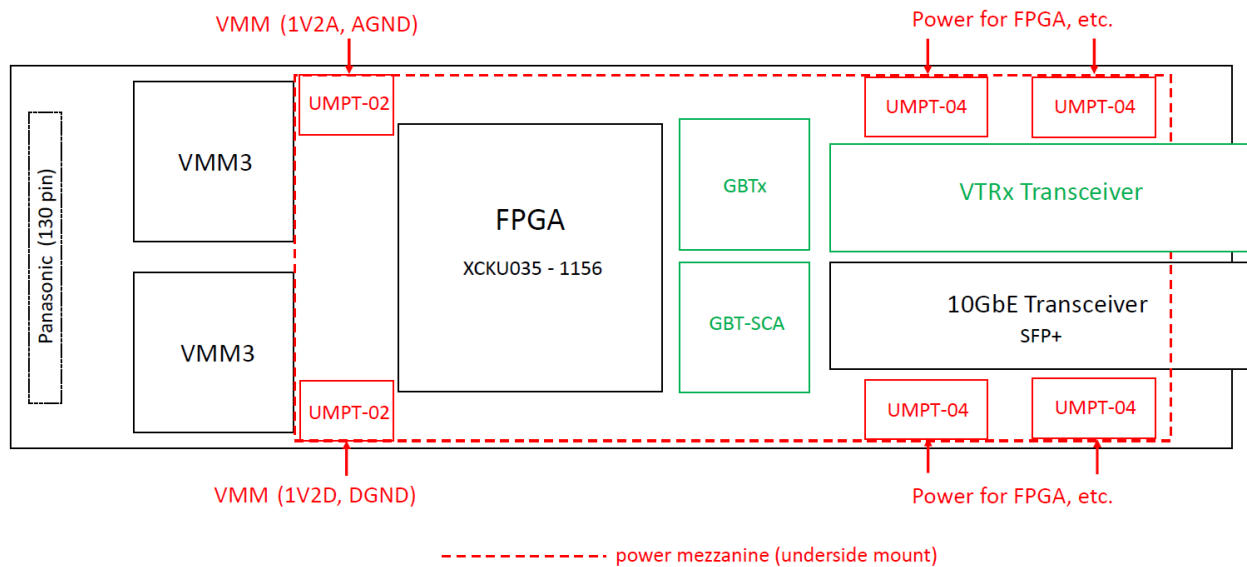

Figure 2. Power transfer points to VMM Prototype Card
- (1) Are there any issues in locating the power sources for the VMMs on a mezzanine card? **No, as long as there is a very low impedance bringing analog supplies and grounds and sufficient and tailored (resonant frequencies) bypass capacitors**
- (2) Is locating the power entry points closer to the VMMs (as in Figure 2) a good idea? **Yes, it looks fine as long as the FEAST is located far from that area**
- (3) Is the filtering scheme of the mmfe8 for the micro megas detector appropriate for our GEM detectors? **Most probably yes**
- (4) Is it good design practice to place the filter circuits for VMM power as close to the VMM chips as possible? **Yes**
- (5) The filters on the mmfe8 design that we are copying were optimized for the FEAST DC-DC power supply. If we instead use a low noise COTS power solution on the mezzanine card, is it O.K. to keep these same filters on the baseboard? Is there any downside to this? **It is a good starting point, but it all depends on the performance of the COTS compared to the FEAST. Adjustments may be needed. Particular attention and specific rules should be dedicated to the layout and placement of the DC-DC components. If needed, please consult with George Iakovidis for the recommended rules.**
- (6) In terms of filtering, the approaches for the mmfe8 (micro megas) and the pFEB (sTGC) are very different. Do the VMMs for the sTGC detector operate at a lower gain than the VMMs for the micro megas detector? Is this why VMM power supply filtering is less important on the pFEB? **Yes**
- (7) As I recall, the input and output grounds for the FEAST DC-DC circuit are the same. If we want to have separate analog and digital grounds (joined at point near the VMMs) this implies separate input supplies for the two FEASTS. Is it worth the effort to do this? (Both mmfe8 and pFEB use a single input supply.) **No, but I am wondering why joining the analog and digital grounds near the VMMs rather than near the FEASTs, with maximum distance between each other along the two paths.**
- (8) Can the bulk of the FEAST filtering be done on the mezzanine card, with minimal isolation filters on the baseboard close to the VMMs? **Yes**